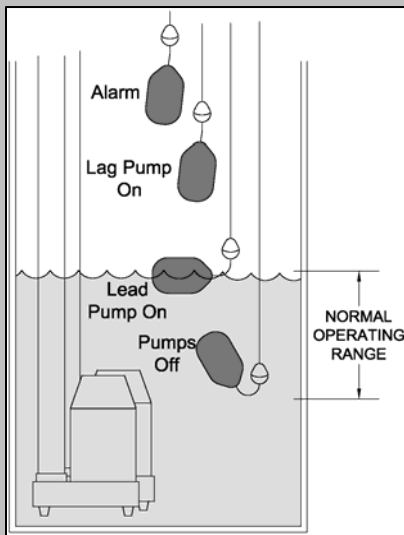

Figure 1
- Determine your normal operating level, as illustrated in **Figures 1 & 2**. Either configuration is acceptable.